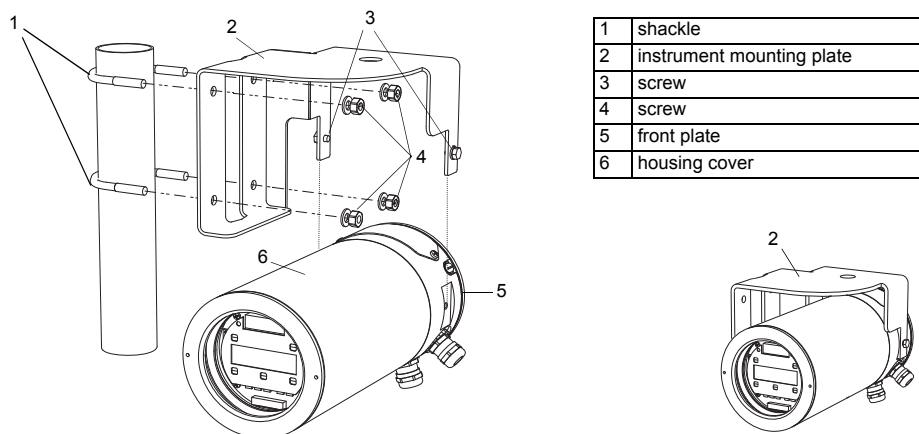

Fig. 7.1: Pipe mounting kit
- Fix the instrument mounting plate (2) to the wall with the 4 screws (4) (see Fig. 7.1).
- Fix the transmitter to the instrument mounting plate (2) with the 2 screws (3).
- Position the shackles (1) at the pipe (see Fig. 7.1).
- Fix the instrument mounting plate (2) to the shackles with the 4 screws (4).